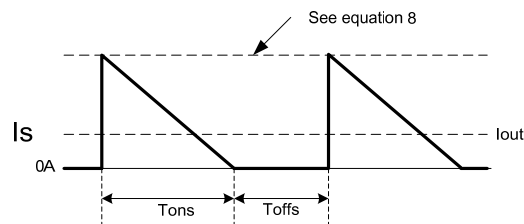

Figure 4. Secondary Current Waveform
The AP3965/66/71 is designed to work in constant current (CC) mode. Figure 4 shows the secondary current waveforms.